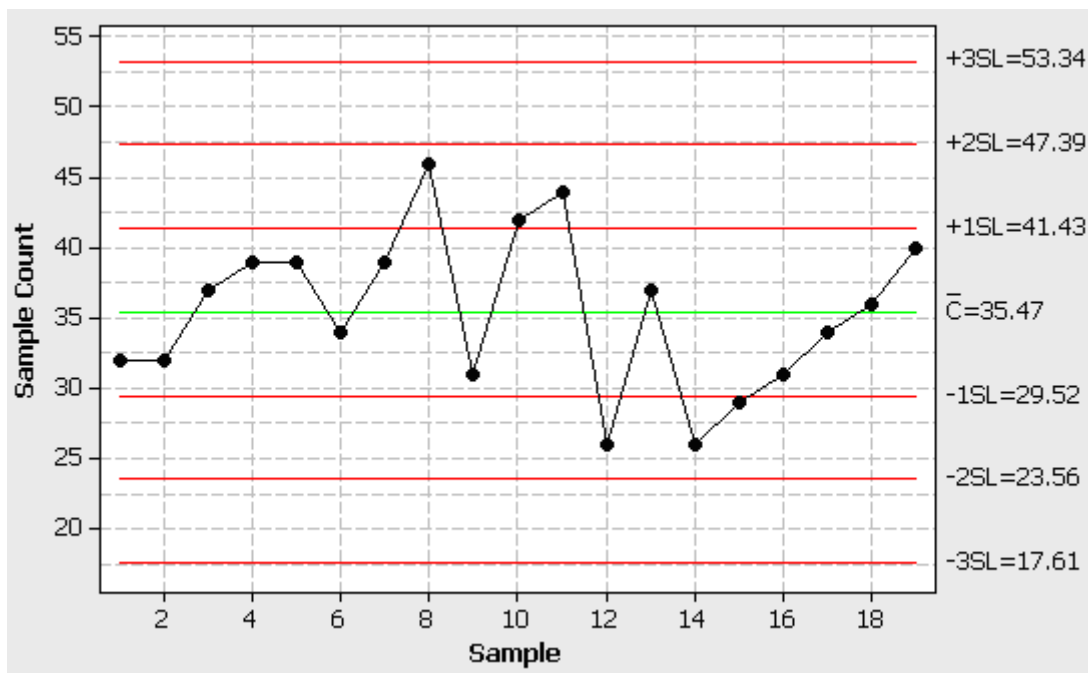

Figure 1 / Rajah 1
- [b] Figure 1 shows a typical of control chart, where the area have been divided into zones. Identify if any points that indicate a lack of control, and explain why.